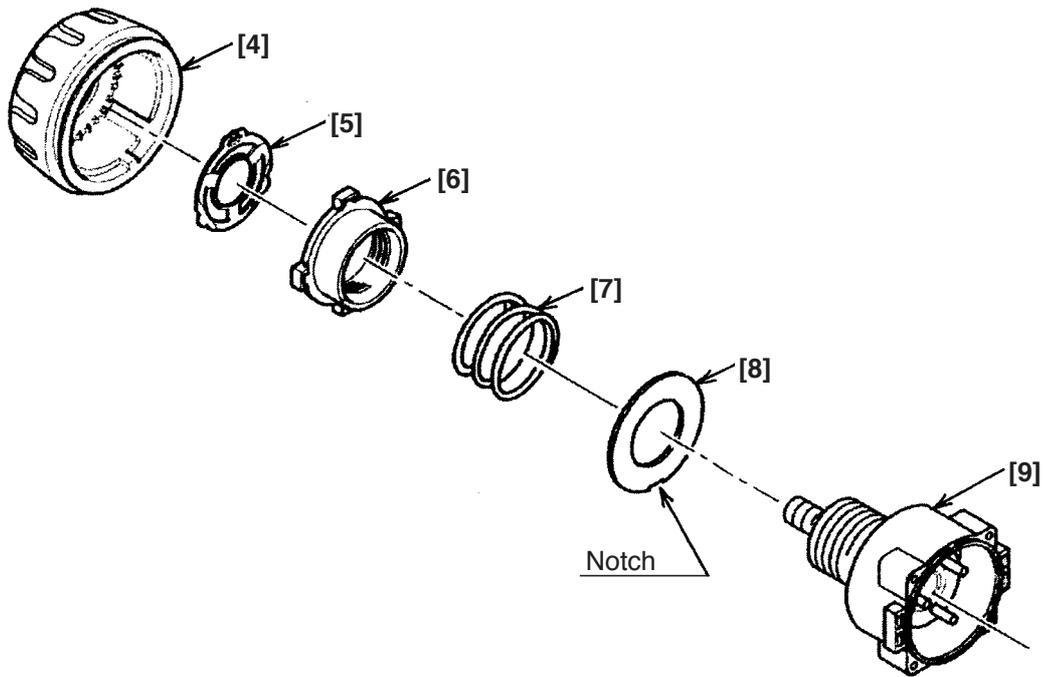

Fig. 9
(a) Mount Washer (D) [8] and the Spring [7] to the Front Case [9]. (See Fig. 9.)